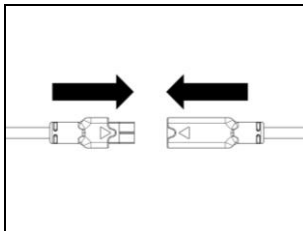

Fig. 11
- Hook up the microphone to the connector coming out of the e-Box (Fig. 11).